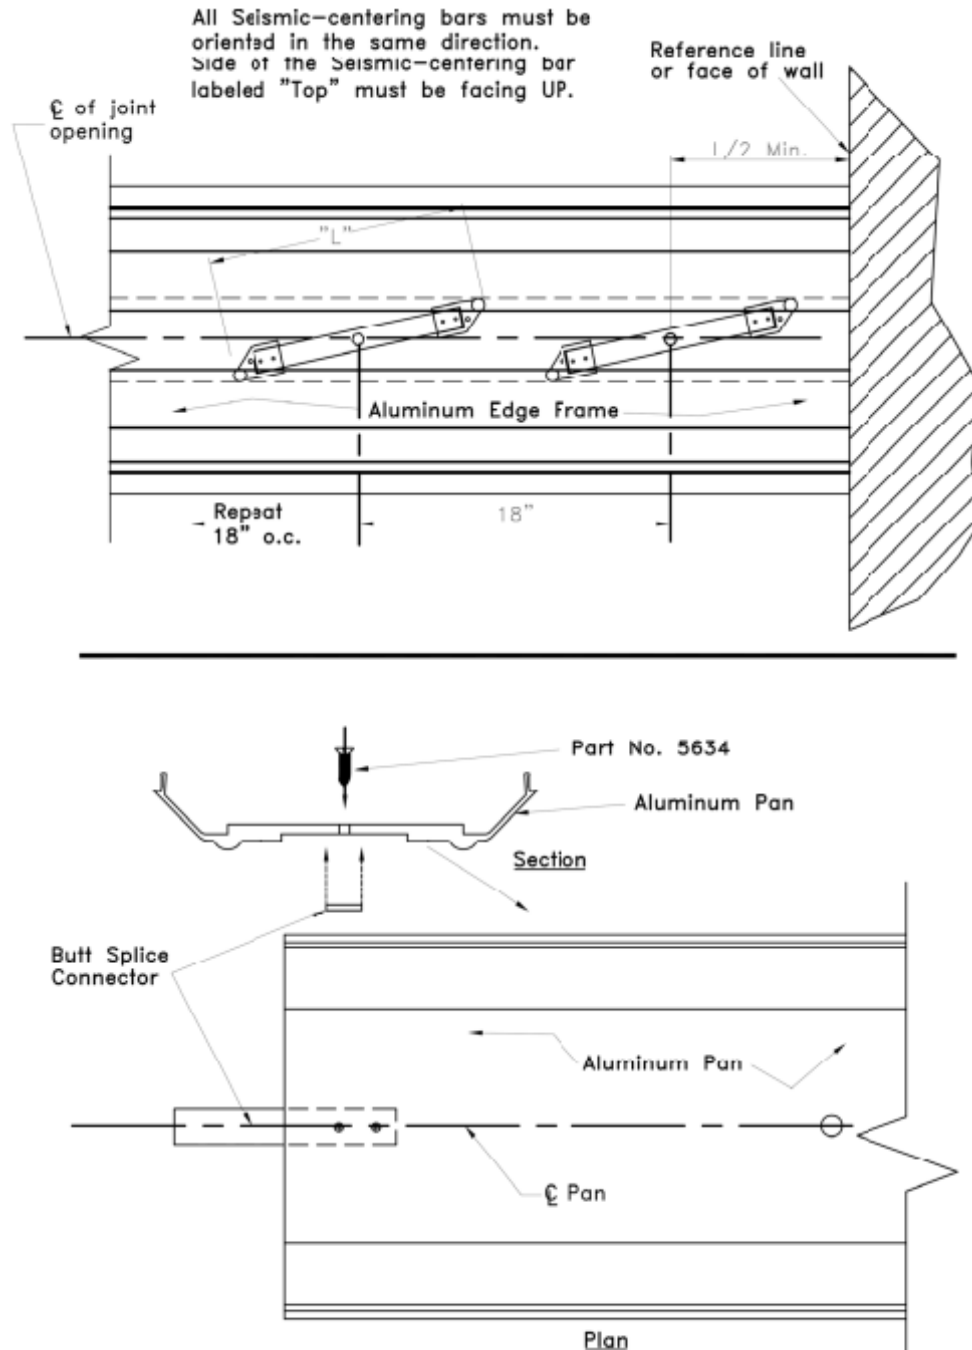

FIGURE 5
5. After aluminum edge frames and seismic-centering bars are installed, start adding butt splice connections to one end of each aluminum pan using factory holes provided and part no. 5634 (Screw 1/4" x 1" FTPN). **SEE FIGURE 5**